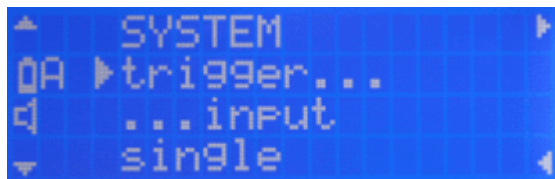

Figure 25: Main menu SYSTEM, submenu trigger input
To enable / disable the trigger input please follow these instructions (see Figure 25):
- Switch to submenu trigger input by pressing button 2 or 4 several times. Move the cursor to line 4 on the display by pressing button 3 (Figure 25).